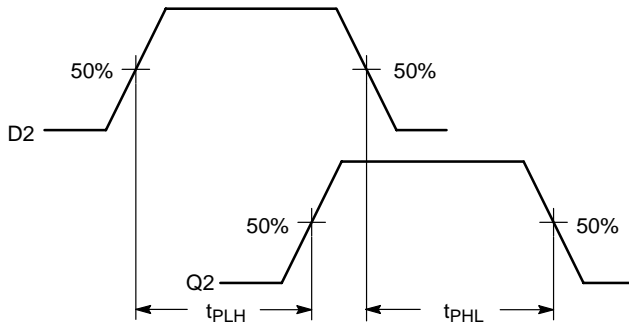

**Figure 26. CMOS Input Propagation Delay**
**Non-ECL Input and ECL Outputs** – Refer to the device data sheet as several methods are used to measure the output propagation delays. One method specifies the output propagation delays from a non-ECL input fixed voltage to an ECL output 50% point. For example, the output propagation delays for the MC10H352 CMOS to PECL translator are specified between a CMOS input fixed voltage equal to  $V_{CC}/2$  and the ECL output 50% point as shown in Figure 26.